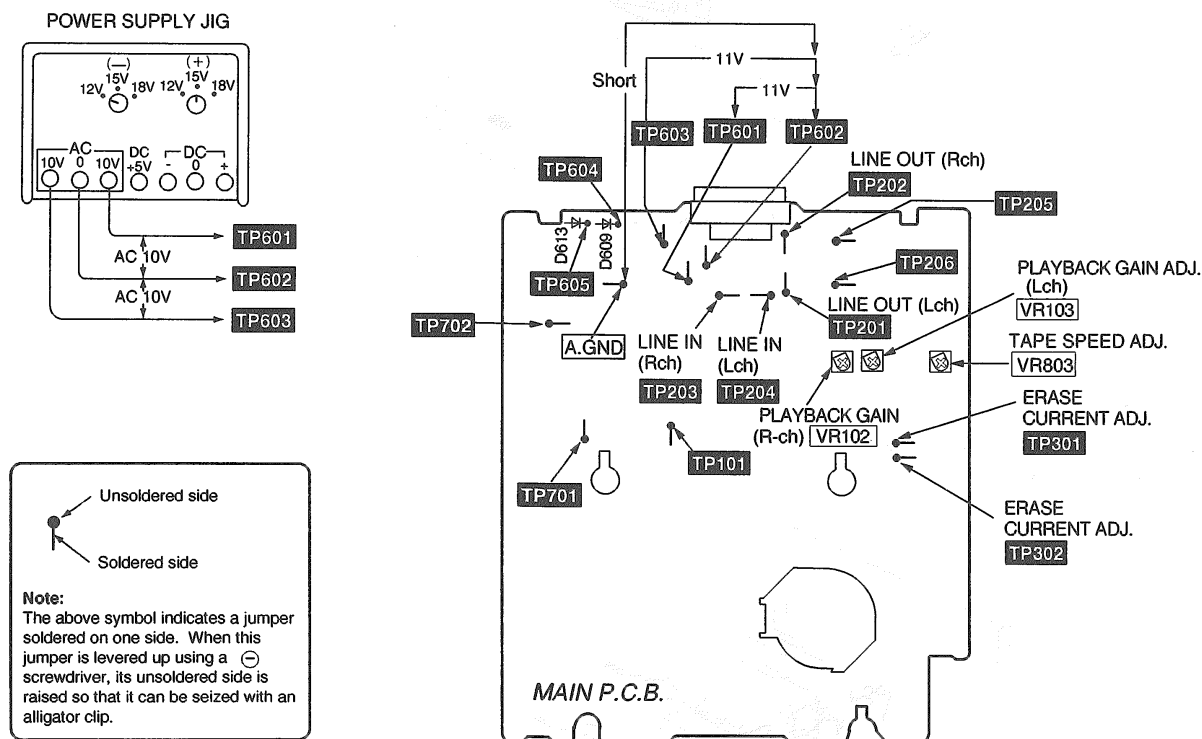

Fig. 1
3. Adjust VR803 for the output value shown below. (Refer to Fig. 1)
3. Adjust VR103 (Lch) [VR102 (Rch)] so that the output is within the standard value. (Refer to Fig. 1).